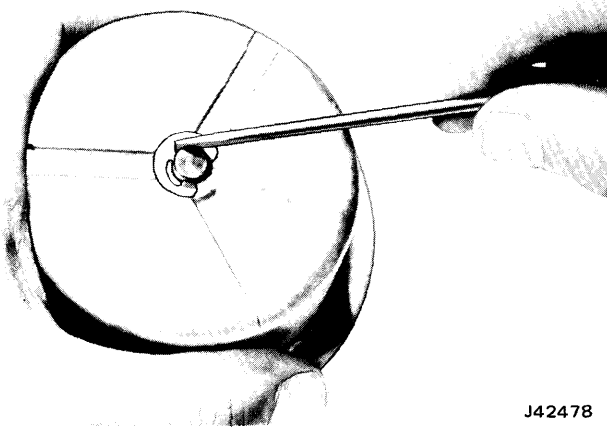

Fig. 7-53 Removing E-Ring Retainer
(2) Remove E-Ring retaining rear servo piston to servo pin (fig. 7-53).
(3) Remove rear servo piston and seal from servo pin (fig. 7-53).
(4) Remove washer, spring, and retainer.